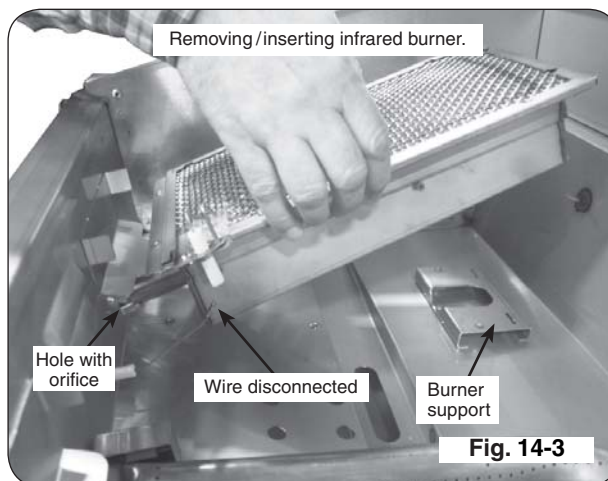

Fig. 14-3
4. Carefully lift the infrared burner from the burner support and out from the hole in the forward fire wall (see Fig. 14-3).
5. Using a  $\frac{3}{8}$ " socket, remove the orifice from the valve. Access this through the hole in the forward firebox plate (see PARTS LIST and Fig. 14-3). Check the number stamped on the face of the orifice (see Table 1).